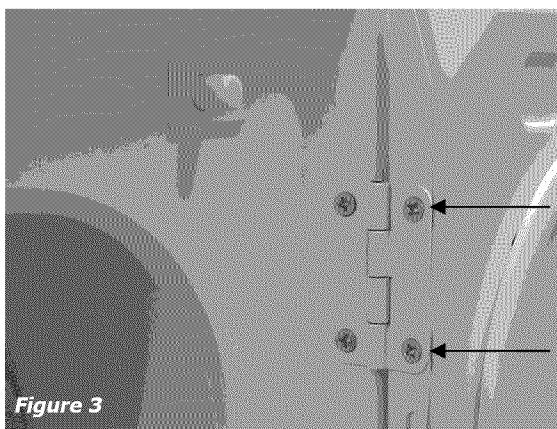

Figure 3
- 3 Place door on a towel (handle side down) to prevent scratches to window. Remove all four remaining hinge screws on edge of door. (Figure 3)